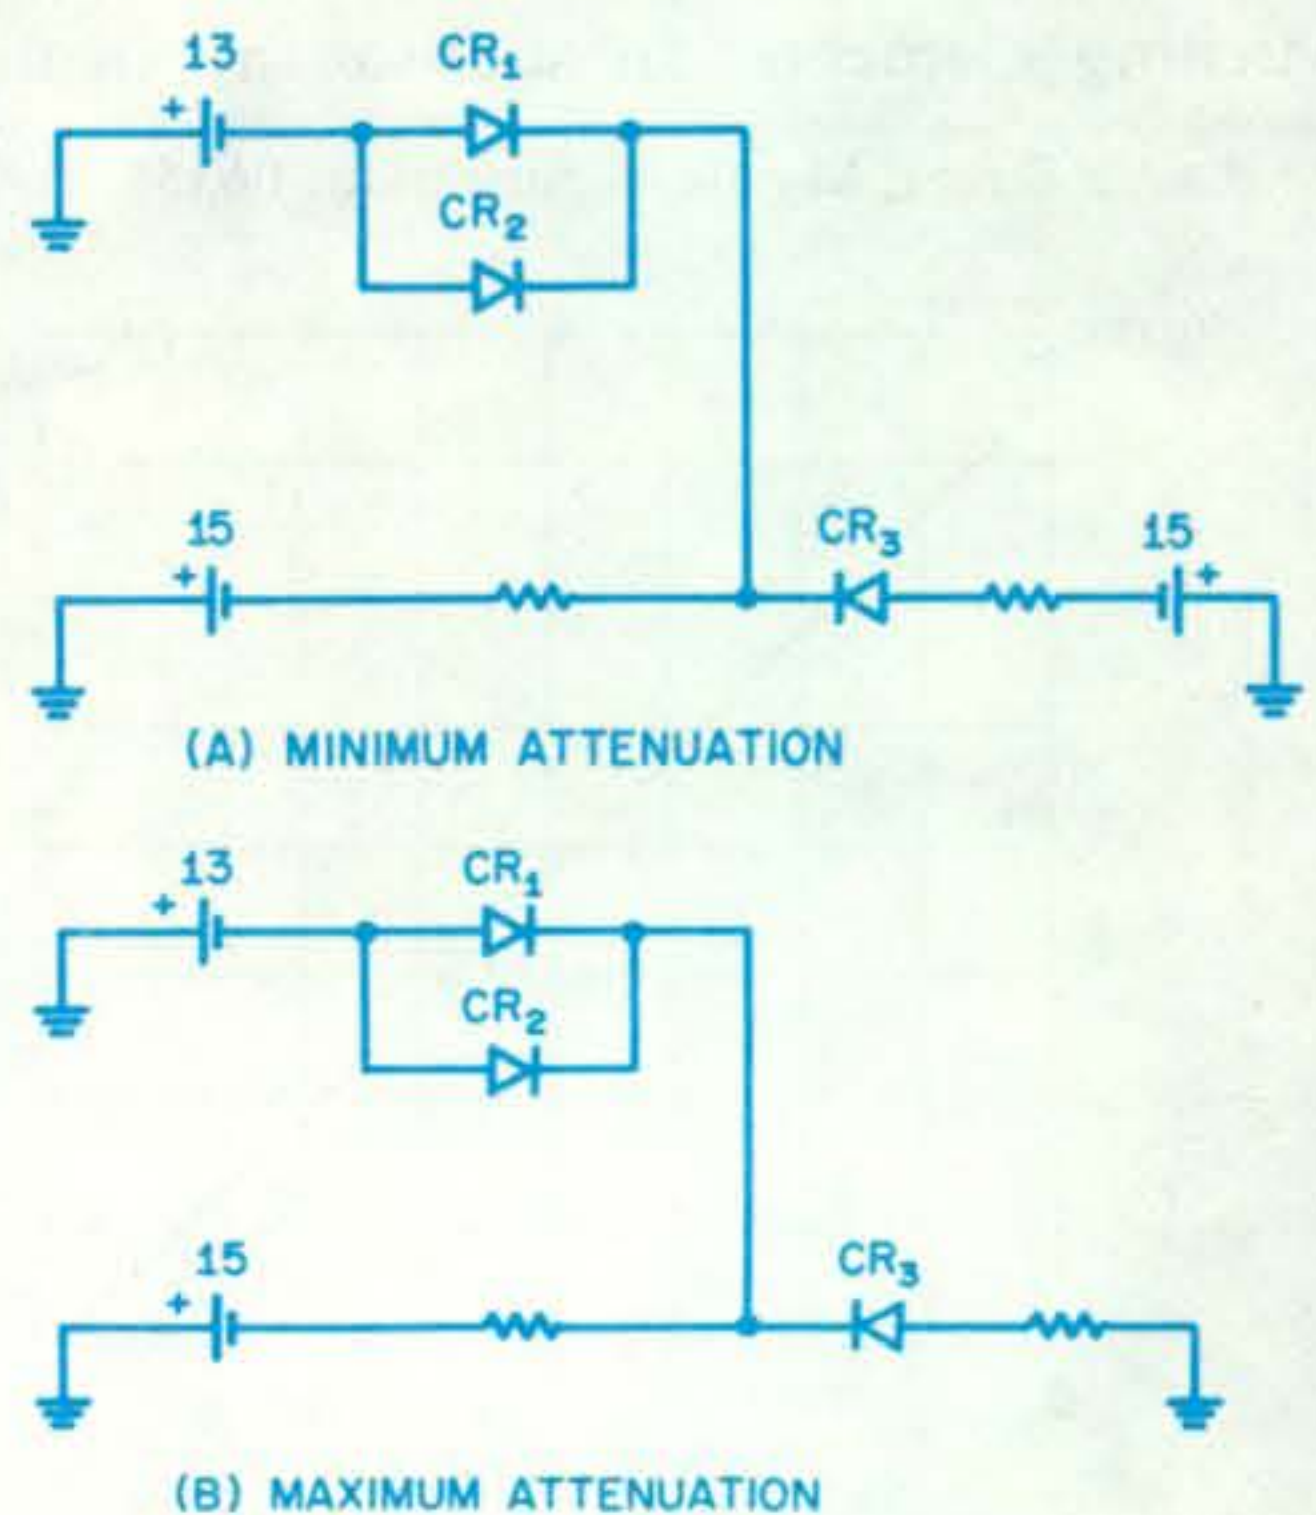

Fig. 4 (A)—The d.c. equivalent of the attenuator circuit at minimum attenuation is shown above. (B) The equivalent circuit for maximum attenuation.
Figure 4 shows the two extreme states of the diodes in the attenuator. When the control potentiometer is set for minimum attenuation (fig. 4 (A)) the two diodes (CR_1 and CR_2 , in series for the r.f. circuit (but in parallel for d.c. current control) are forward biased to present a very low resistance while the diode directly in the d.c. potentiometer circuit is back-biased for maximum resistance.